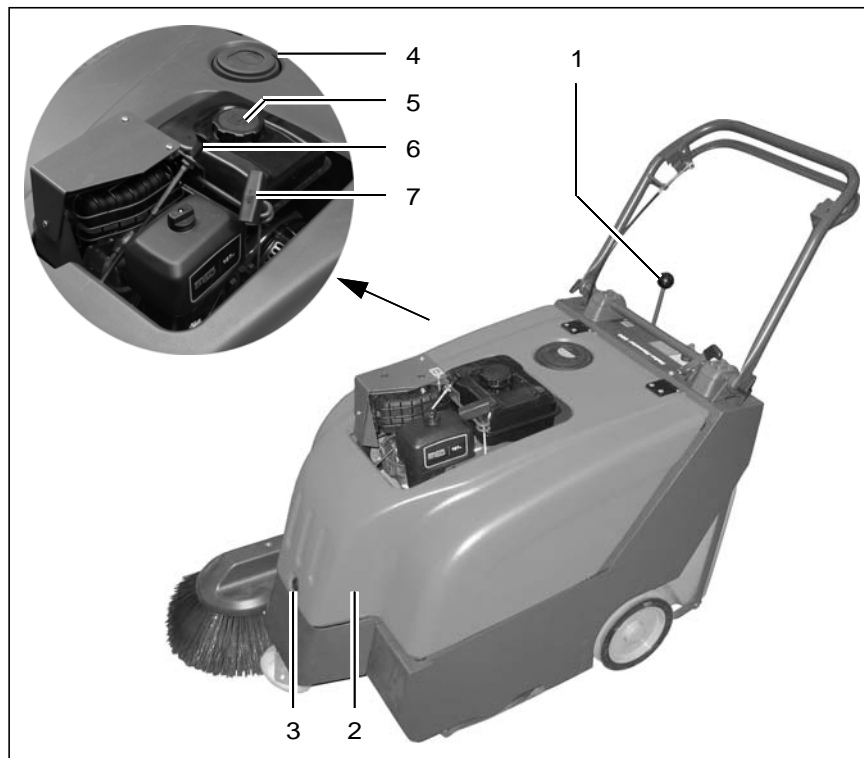

Fig. 7
Unscrew the fuel tank cap (Fig. 7/5) and fill approx. 2.5 l gasoline. Screw the fuel tank cap back on.
Side brush lever (Fig. 7/1)
(Fig. 7/2)
The hood should only be opened for maintenance and repair work. In this case, unlock the lock (Fig. 7/3) using a square wrench and pivot the hood up.
Bypass flap (Fig. 7/4)
Fuel tank cap (Fig. 7/5)
Choke (Fig. 7/6)
Recoil starter (Fig. 7/7)
2. Pull out the choke (Fig. 7/6) in the case of a cold start.
3. Pull the recoil starter cord (Fig. 7/7) until the starter clutch perceptibly en-
gages (slight resistance) and then pull the starter cord (Fig. 7/7) hard and fast to start the engine.
4. Release the starter cord (Fig. 7/7) and let it recoil back into the housing.
5. Then push the choke (Fig. 7/6) back in, slowly.